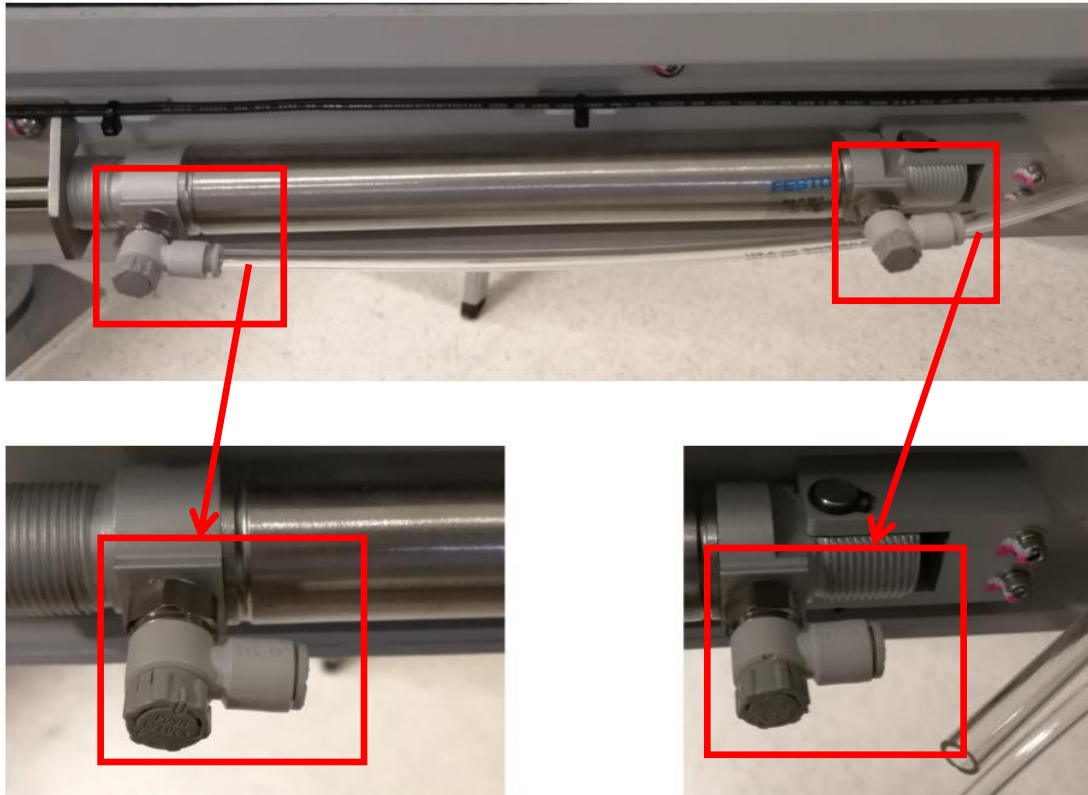

Figure 3
6. Remove 2 x Tubing from Outer Barrier Speed Controller as Figure 3